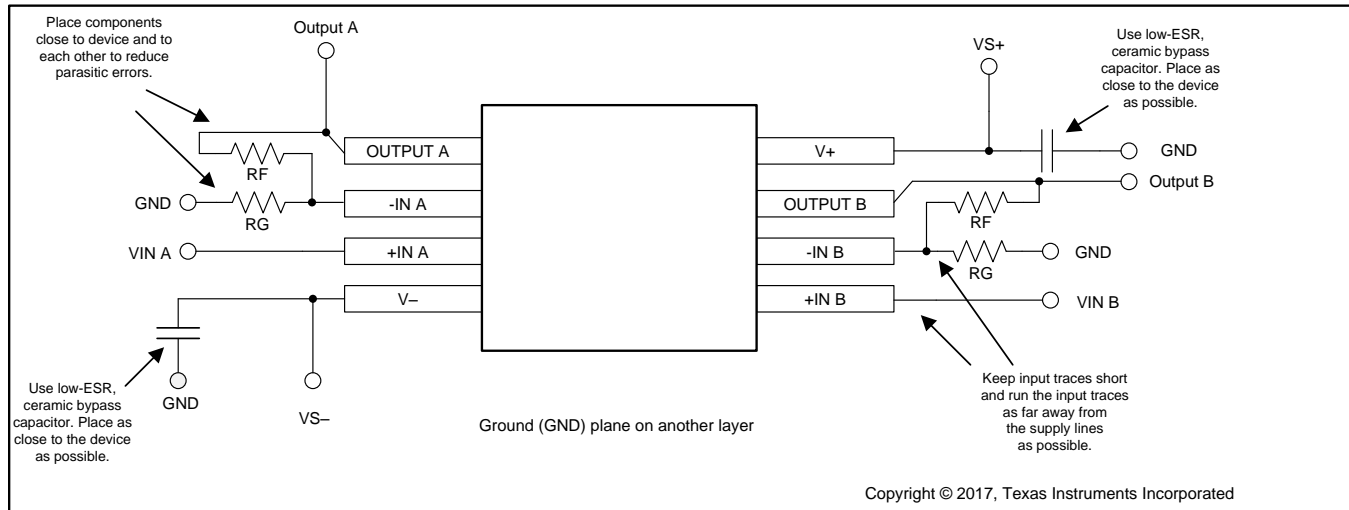

Figure 42. Operational Amplifier Board Layout for Noninverting Configuration
- Place the external components as close to the device as possible. As illustrated in Figure 42, keeping R_F and R_G close to the inverting input minimizes parasitic capacitance.